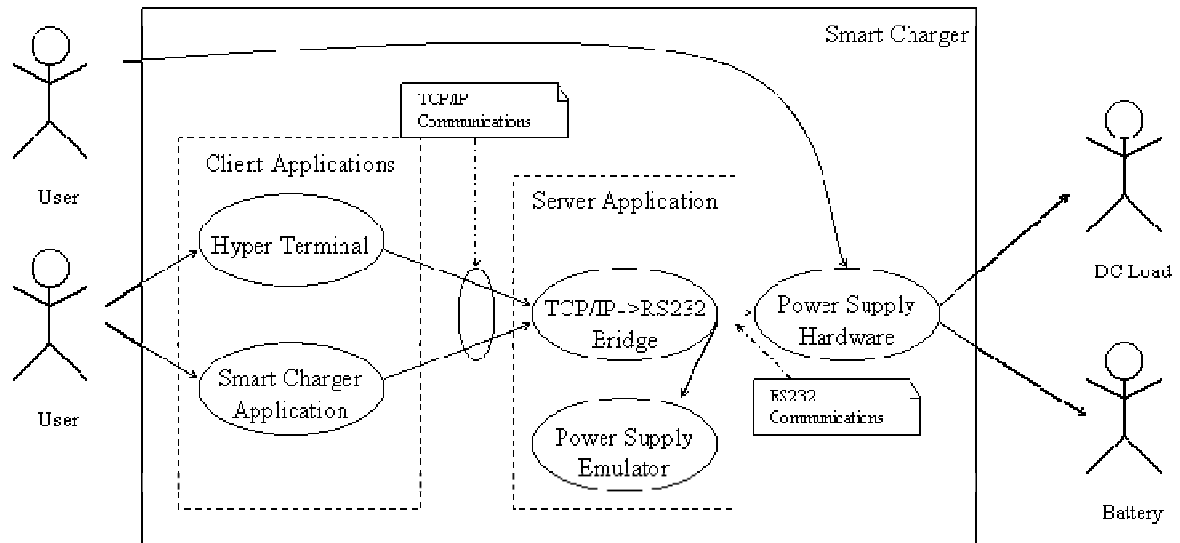

Figure 20. System Use Case Diagram.
Figure 20 represents the general system use case with respect to the user. The user may interact with the Power supply hardware directly to power a general DC load via the local hardware user interface. The user may also interact with a personal computer (PC) via 2 different client applications. These include a text based interface via windows HyperTerminal, and a graphical interface via the custom visual basic application. The server application can service a single instance of both of these applications simultaneously. The client and server can run on the same machine by configuring the client to connect to the local machine name or TCP/IP loop back address 127.0.0.1. The text based interface via HyperTerminal connects through port 23, and the application connects through port 107. By using these ports the client can connect via the university wireless network and not get blocked by the universities firewall that blocks many in not all of the user configurable ports above 1024. A connection can even be established by configuring a virtual private network (VPN) connection, that would allow access to the server application running in the senior design lab, and therefore the smart charger hardware in the lab, from anywhere in the world. The practical advantage of the client server arrangement is that a single application could access multiple charger hardware, and that hardware may be located in harsh environments such as in a factory. The server application not only acts as a bridge between the RS232 interface of the device and a TCP/IP connection, but also decodes the proprietary packet structure that is native to the device, formats this data for both types of client applications, and also acts as an emulator for the hardware that allows for testing of the software, such as battery charging algorithms, without actually being connected to the hardware or an actual